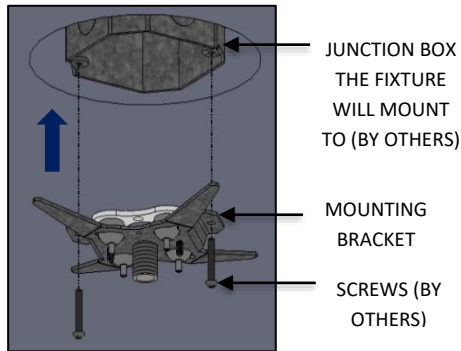

FIG. 12 – MOUNTING BRACKET ASSEMBLY INSTALLATION
7. Assemble the MOUNTING BRACKET ASSEMBLY to the JUNCTION BOX the fixture will mount to (by others) with screws (by others) as shown in FIG. 12 below.